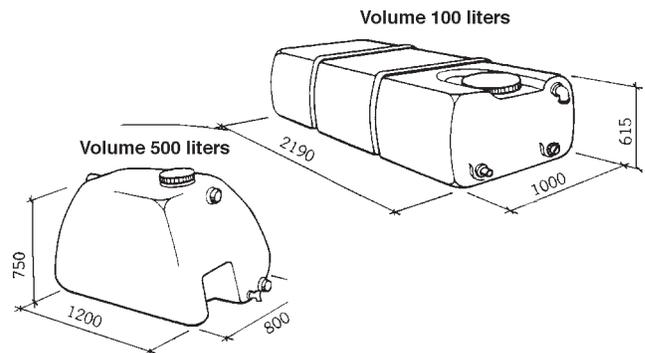

Figure 26b
Most cisterns are now made of plastic. Different plastic materials are available; the most common is fiberglass-reinforced polyester (GAP) and polyethylene (PE) (Figure 26a). Larger cisterns are made in the form of cylinders, preferably of fiberglass-reinforced polyester, a material that is both strong and light weight. Smaller cisterns of polyethylene are made in a variety of shapes and dimensions that make them easier to place (Figure 26b).